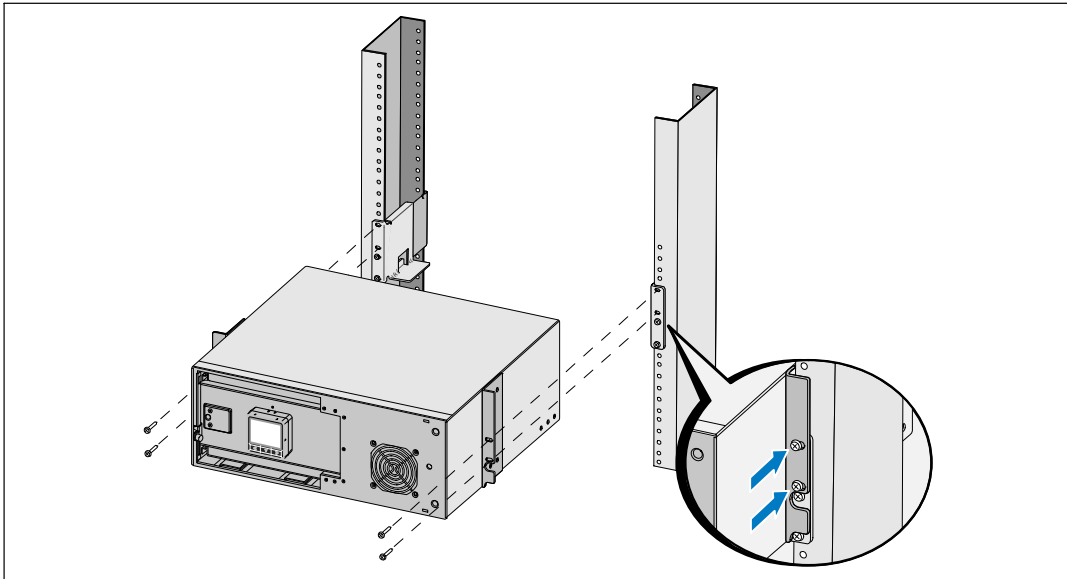

Figure 12. Installing and Securing the Cabinet
- 6 Slide the cabinet into the rack (see Figure 12).